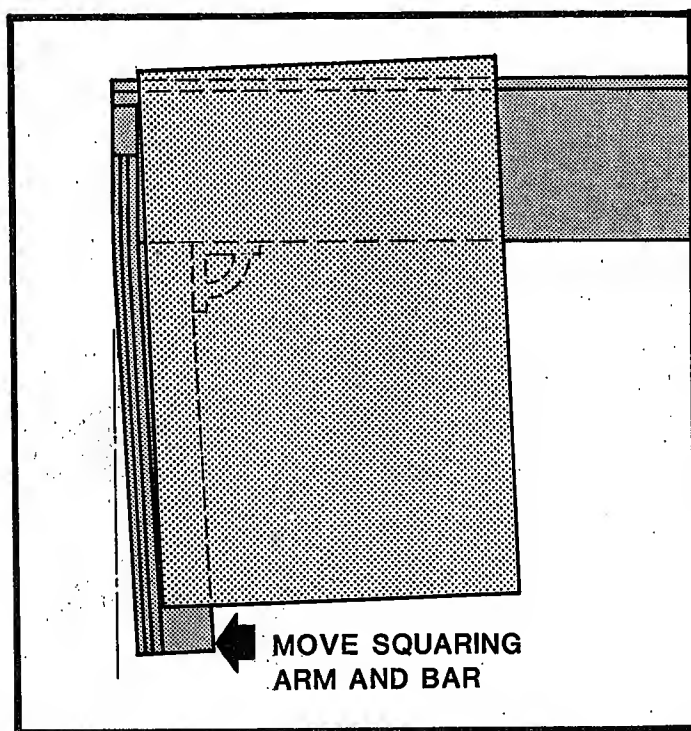

FIGURE 91
- A. Sheet lays on table and against squaring arm bar as shown on Figure 91.
1. Loosen or remove anchor bolts for squaring arm leg. Loosen bolts which fasten the squaring arm gusset to table and squaring arm. Loosen nuts which fasten squaring arm to the table. Move the squaring arm to left as shown in Figure 91 until sheared edge is tight against squaring arm bar full length.